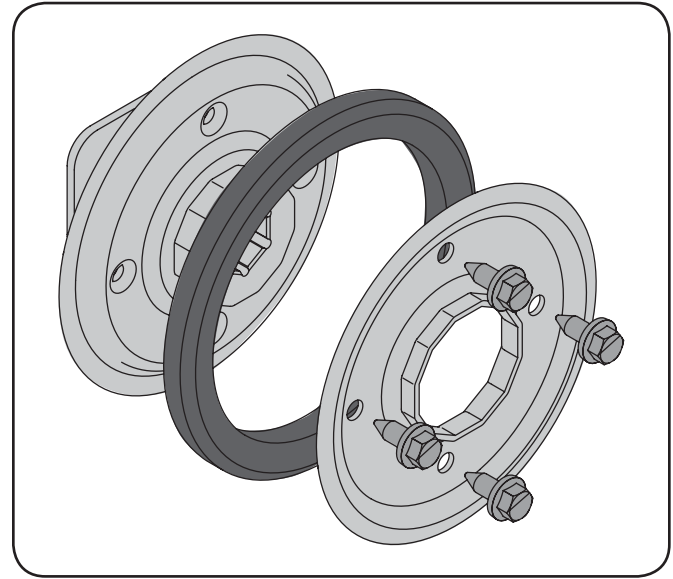

Figure 8-11
- Remove the four screws which secure the friction wheel's side plates together. See Fig. 8-11.